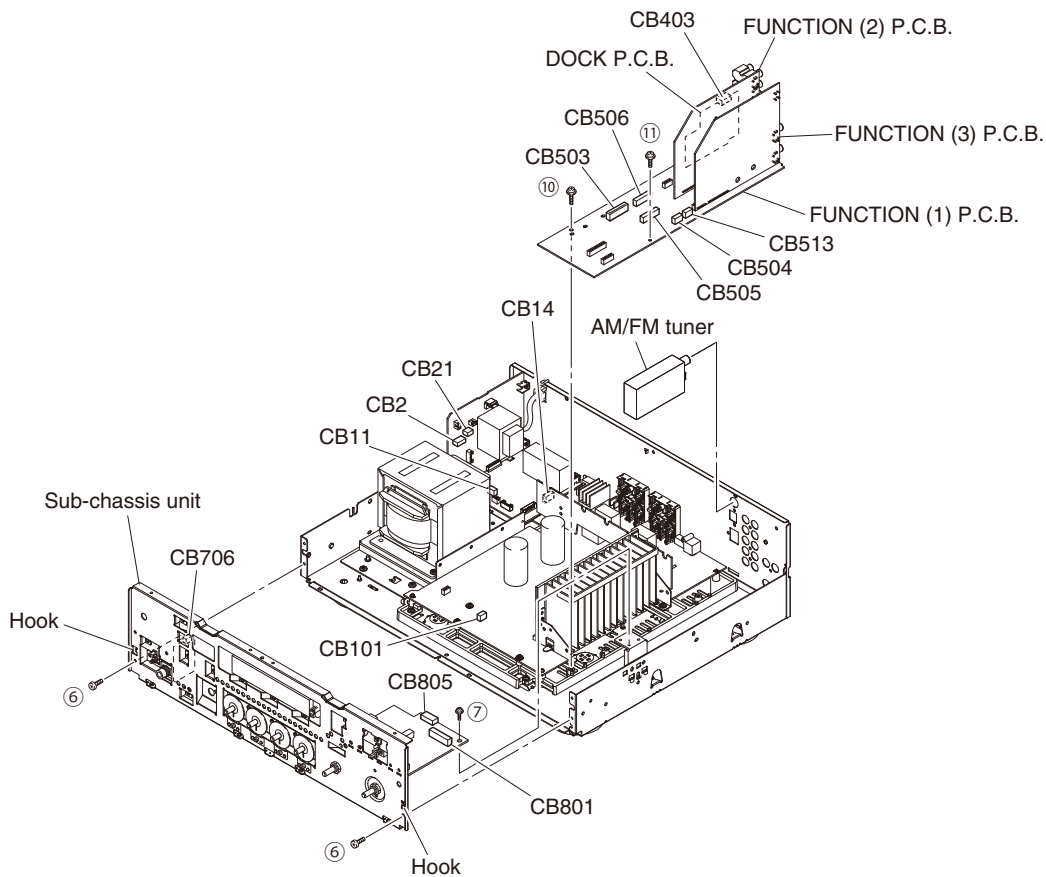
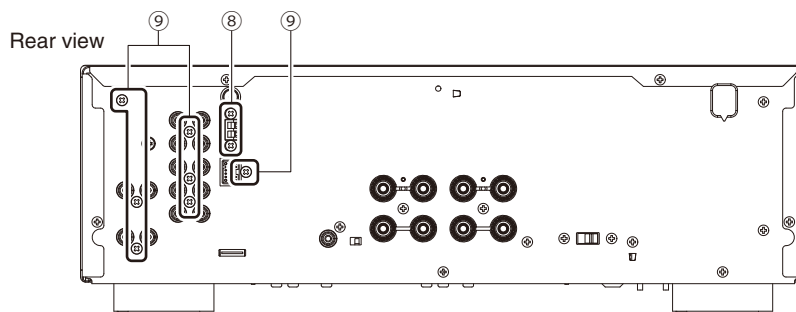

Fig. 2
Fig. 3
- Remove 2 screws (⑥) and screw (⑦). (Fig. 2)
- Remove CB11, CB101, CB503–505, CB513, CB706, CB801 and CB805. (Fig. 2)
- Release 2 hooks and then remove the sub-chassis unit. (Fig. 2)
- Remove 2 screws (⑧). (Fig. 3)
- Remove CB403. (Fig. 2)
- Remove the AM/FM tuner. (Fig. 2)
5. Removal of FUNCTION (1)–(3) and DOCK P.C.B.s
- Remove 7 screws (⑨). (Fig. 3)
- Remove screw (⑩) and screw (⑪). (Fig. 2)
- Remove CB2, CB14, CB21 and CB506. (Fig. 2)
- Remove the FUNCTION (1)–(3) P.C.B.s and DOCK P.C.B. together. (Fig. 2)